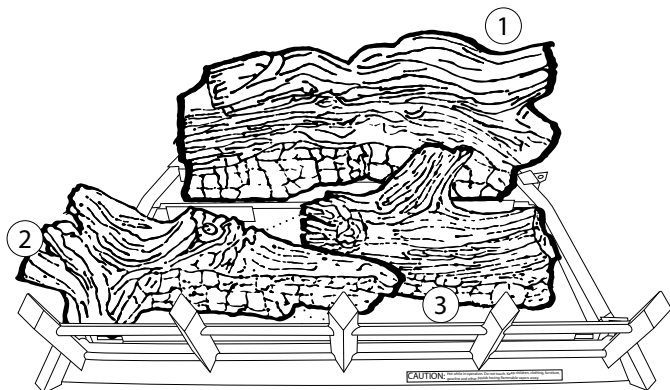

Figure 47
3. Place the front center log (#3) on the pin located on the right side of the burner. (See Figure 47.)